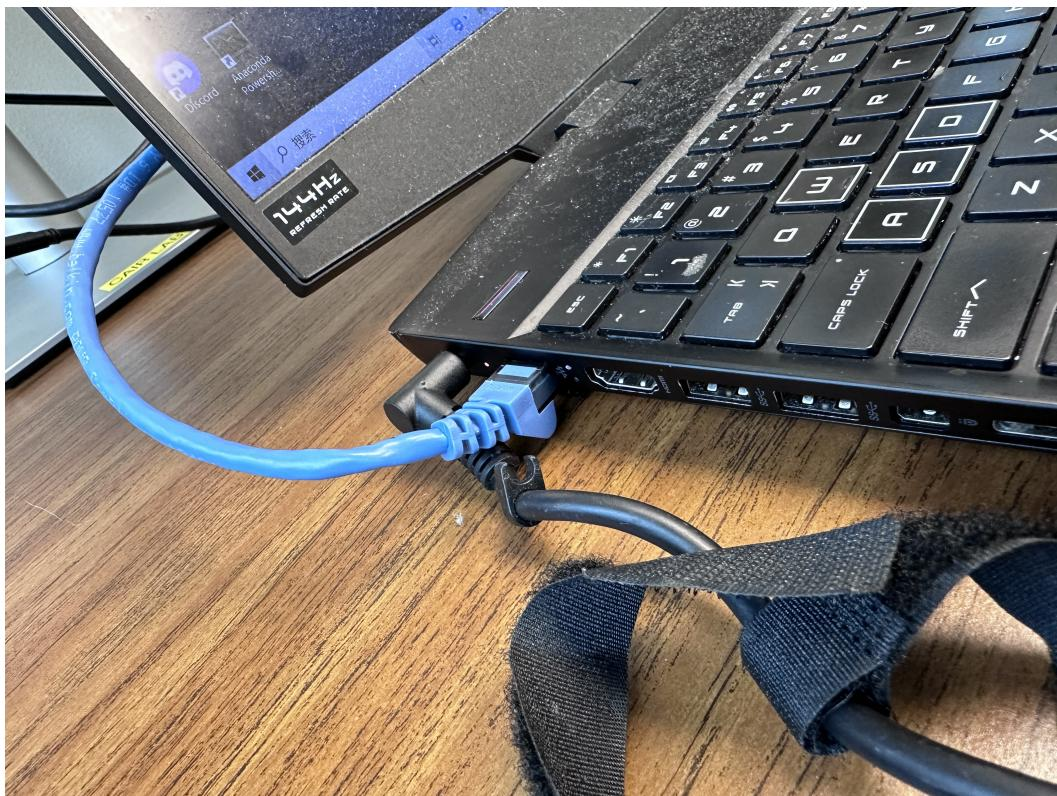

Figure 3: Ethernet connection to PC
1. Connect one end of the ethernet cable to your computer's ethernet port. [Figure 3]